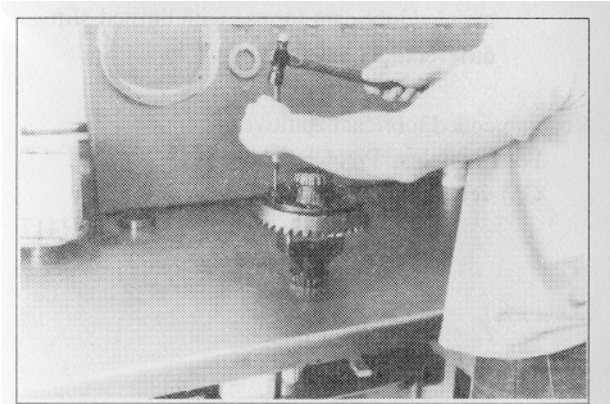

Figure 2 – Driving Ring Gear Loose
3. Using a non-metallic hammer or brass drift punch, drive the ring gear loose from the differential case pilot and remove. See Fig. 2.
2. Using a non-metallic hammer or brass drift punch, drive the ring gear loose from the differential case pilot and remove. See Fig. 2